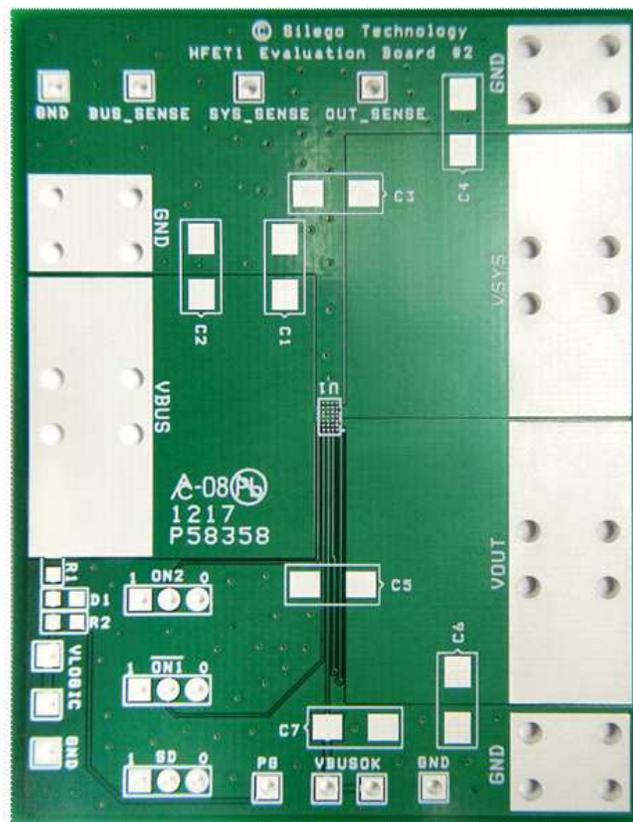

Figure 1. SLG59H1302C Evaluation Board
1. Since the BUS, SYS and OUT pins dissipate most of the heat generated during high-load current operation, it is highly recommended to make power traces as short, direct, and wide as possible. A good practice is to make power traces with absolute minimum widths of 15 mils (0.381 mm) per Ampere. A representative layout, shown in Figure 1, illustrates proper techniques for heat to transfer as efficiently as possible out of the device;
A High Voltage GreenFET Evaluation Board for SLG59H1302C is designed according to the statements above and is illustrated on Figure 1. Please note that evaluation board has BUS\_Sense, SYS\_Sense and OUT\_Sense pads. They cannot carry high currents and dedicated only for RDSON evaluation. evaluation.